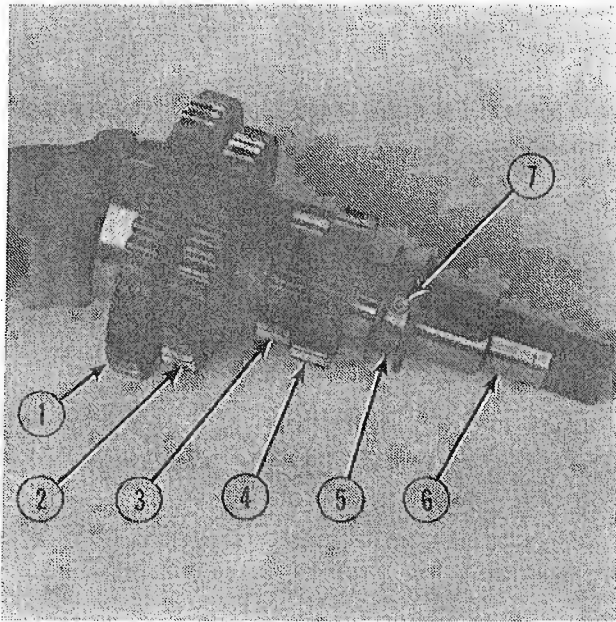
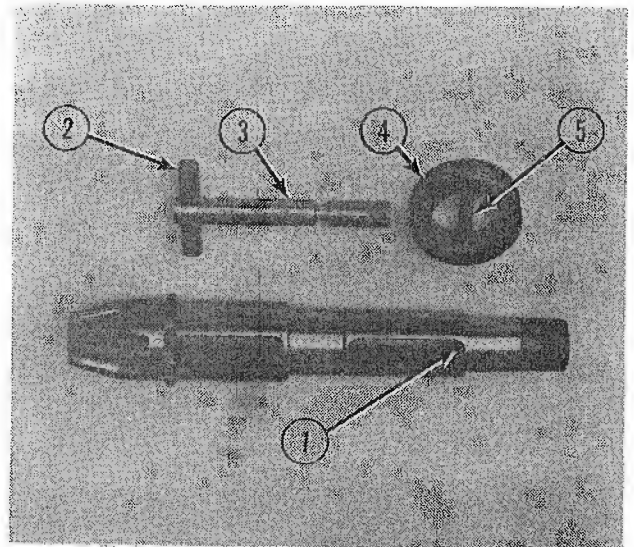

FIG. 5
FIG. 6
Figure 5 illustrates the major parts of this sub-assembly.
- (1, Fig. 5) Low range gear.
- (2, Fig. 5) Medium range gear.
- (3, Fig. 5) High range gear.
- (4, Fig. 5) PTO idler gear.
- (5, Fig. 5) Range shifting collar.
- (6, Fig. 5) Front pinion shaft.
General. The desired range is selected by sliding the shifting collar (5, Fig. 5) fore or aft along the pinion shaft. The shifting collar (4, Fig. 6) is pinned to the aft end of the range actuator rod (3, Fig. 6) located in the center of the pinion shaft. The range drive key (2, Fig. 6) is then aligned with the appropriate range drive gear selected by the operator.
Figure 6 illustrates the major parts of the range shifting mechanism.
- (2, Fig. 6) Range drive key.
- (3, Fig. 6) Range actuator rod.
- (4, Fig. 6) Shifting collar.
- (5, Fig. 6) Stepped pin.